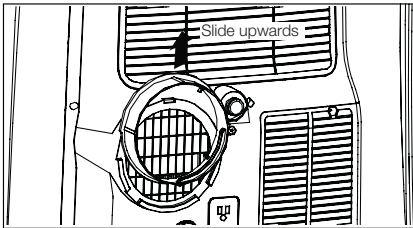

Fig. 4
2. Remove adaptor A from unit by sliding upwards (Fig.4).